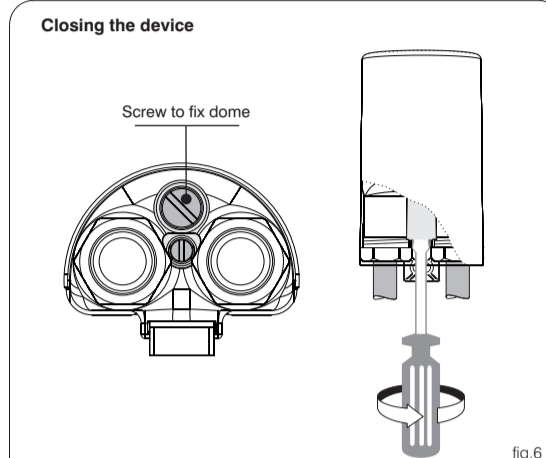

fig. 6
- Secure the dome by tightening the captive screw inserted through the bottom of the base. Tighten the screw until the dome presses on the gasket sufficiently to ensure a hermetic seal (fig. 6).